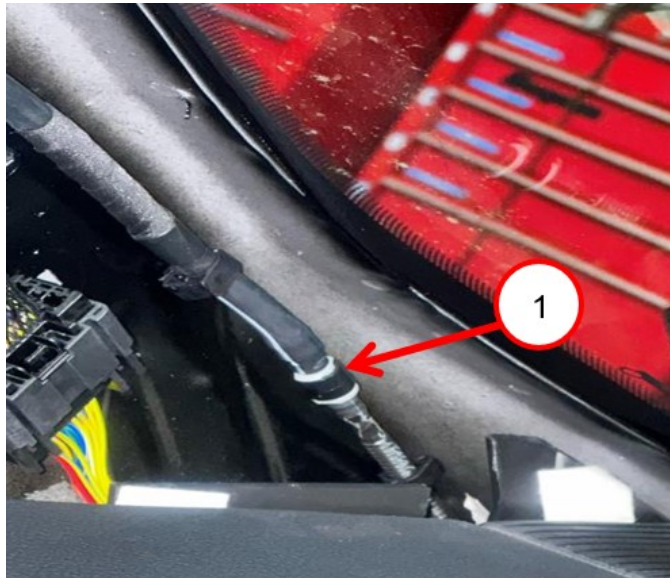

Fig. 5
11. Disconnect the washer hose from the rear windshield inline wiper hose coupler Fig. 5.